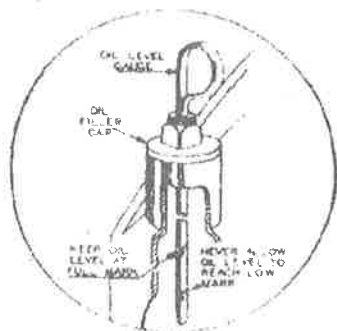

Figure 1. Oil filler opening and oil level gauge.
2. **Oil.** Check the oil level daily with the dipstick in the oil filler plug. See Figure 1. Add a good clean oil of the proper viscosity when the oil level is below the full mark. See paragraph No. 13 for the proper viscosity of oil to be used. **DO NOT OVER FILL.**